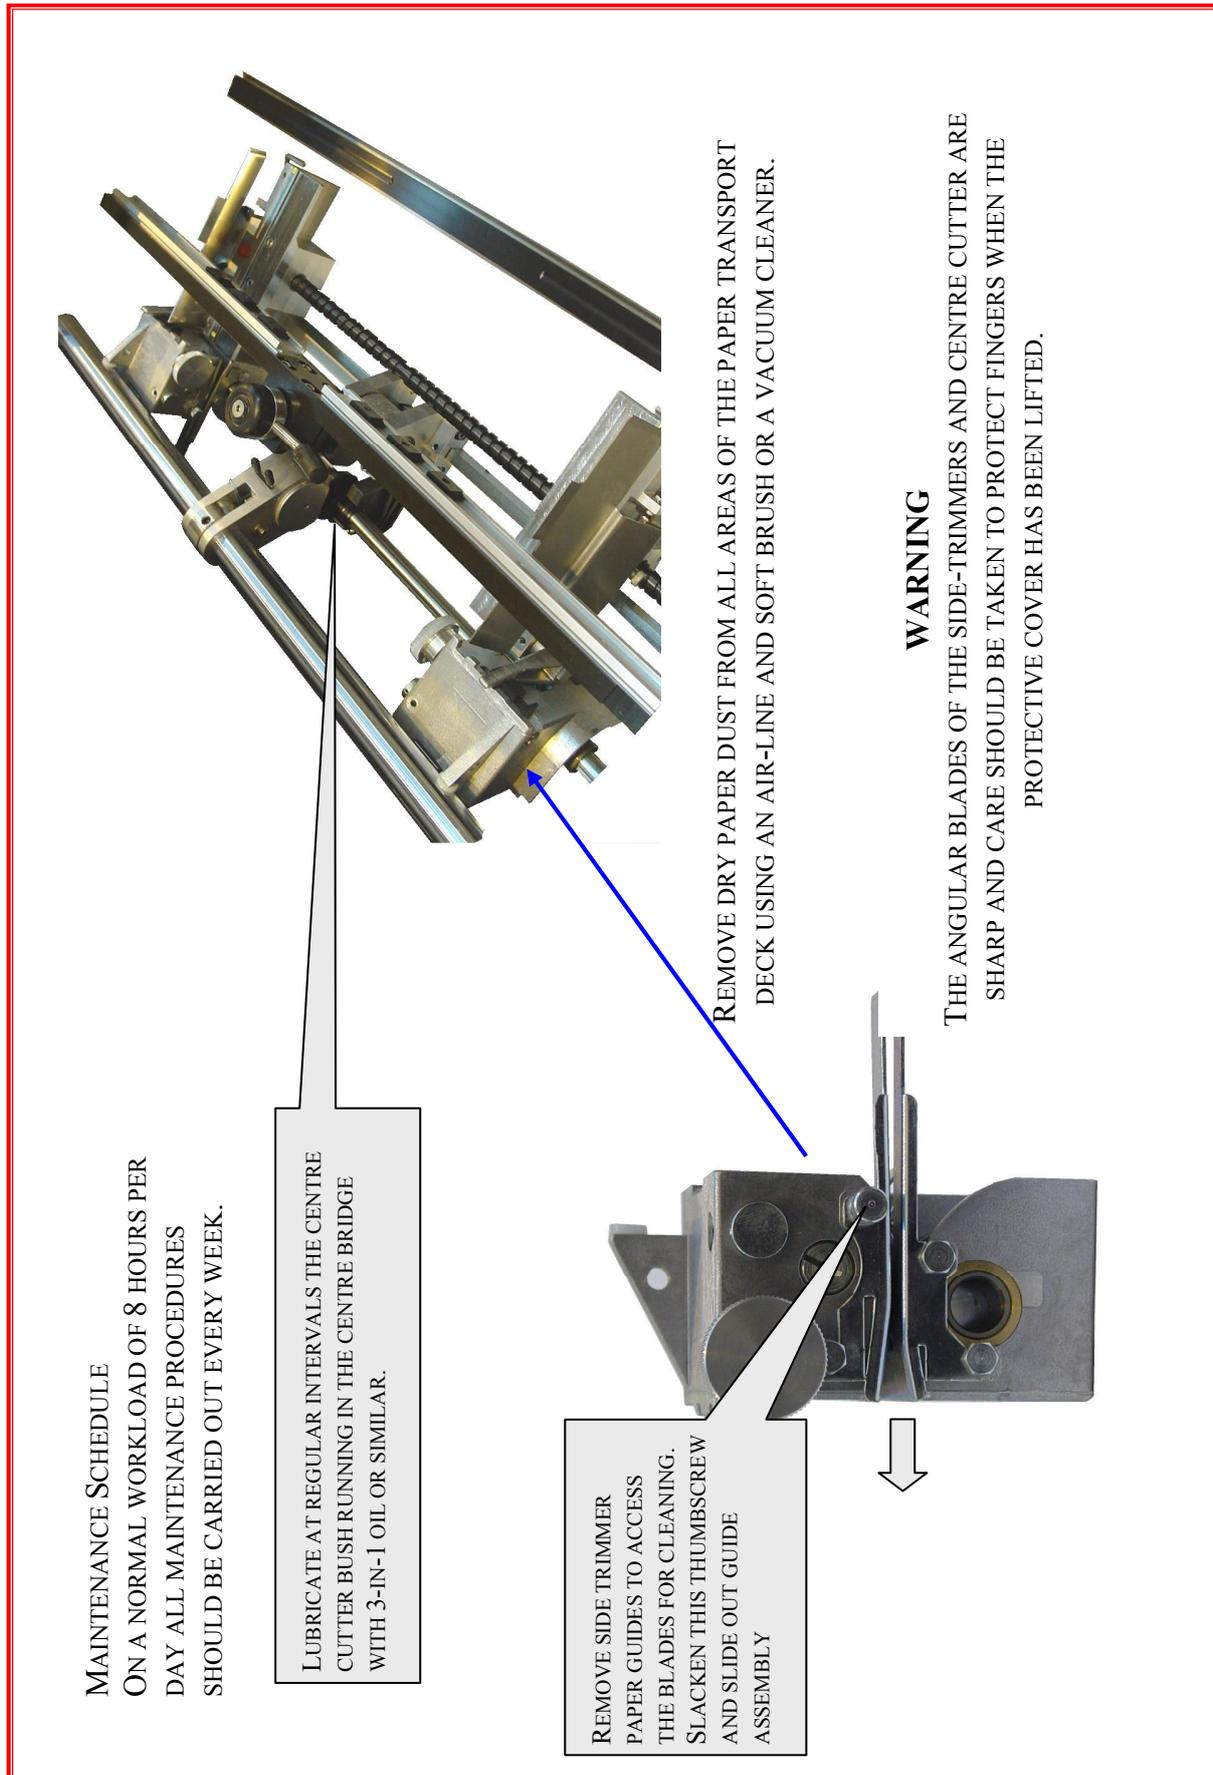

Fig4.1 Cleaning & Lubrication Areas
- Remove each side trimmer guide by slackening the thumbscrew on the side of the trimmer block, as shown in Fig 4.1. This gives access to the trimmer blades. Clean the side trimmer blades using an airline and a soft-hair hand brush.
- Lightly oil the centre cutter bush, which runs in the centre bridge (see Fig 4.1).